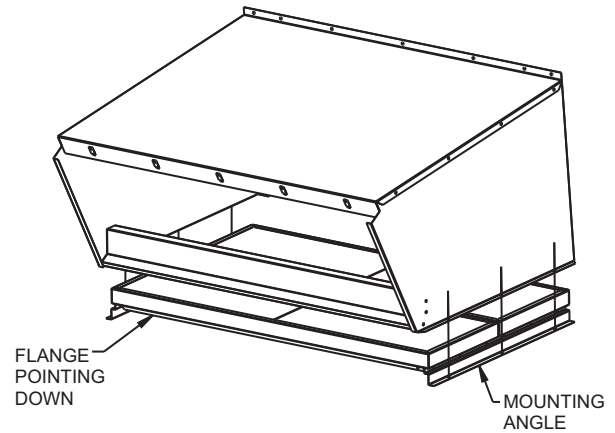

Fig. 32 — Bottom Filters Installed with Flange Pointing Down (Mounting Angle Location)
13. Attach filter track under the hood assembly. See Fig. 32 for flange and mounting angle (bottom).